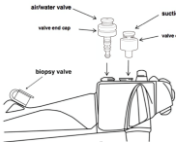

Figure 1
- Insert the suction valve into suction cylinder of a Fujifilm® endoscope (see Figure 1 below).
- Insert the air/water valve into the air/water cylinder of a Fujifilm® endoscope (see Figure 1 below).
- Securely place the biopsy valve onto the biopsy/suction channel opening of a Fujifilm® endoscope (See Figure 1).